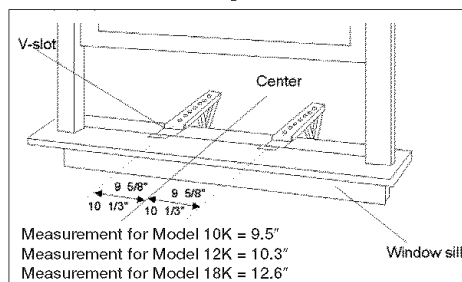

Fig. 6
B. Measure the inside window sill width and find the center as shown in (Fig. 6). Align the **V-slot** in each bracket on these marks and mount the brackets to the sill using **3/4" screws** provided. Brackets should be perpendicular to the inside window sill. See (Fig. 6).